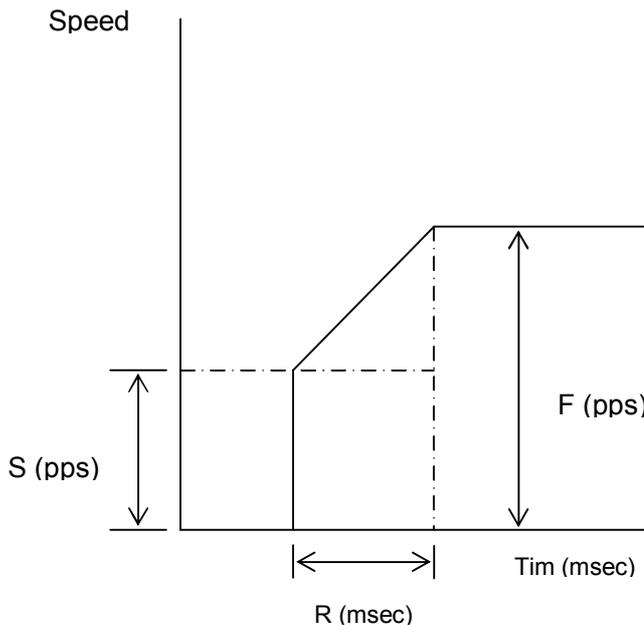

Fig. 3-2-2 Relation of F, S and R values
(6) F-value setting (SW 12)
Maximum speed (F) is set with this switch. (Refer to figure 3-2-2)
(8) R-value setting (SW 13)
Acceleration / Deceleration time (R) is set. (Refer to figure 3-2-2)
(Refer to figure 3-2-2, 3-2-3)